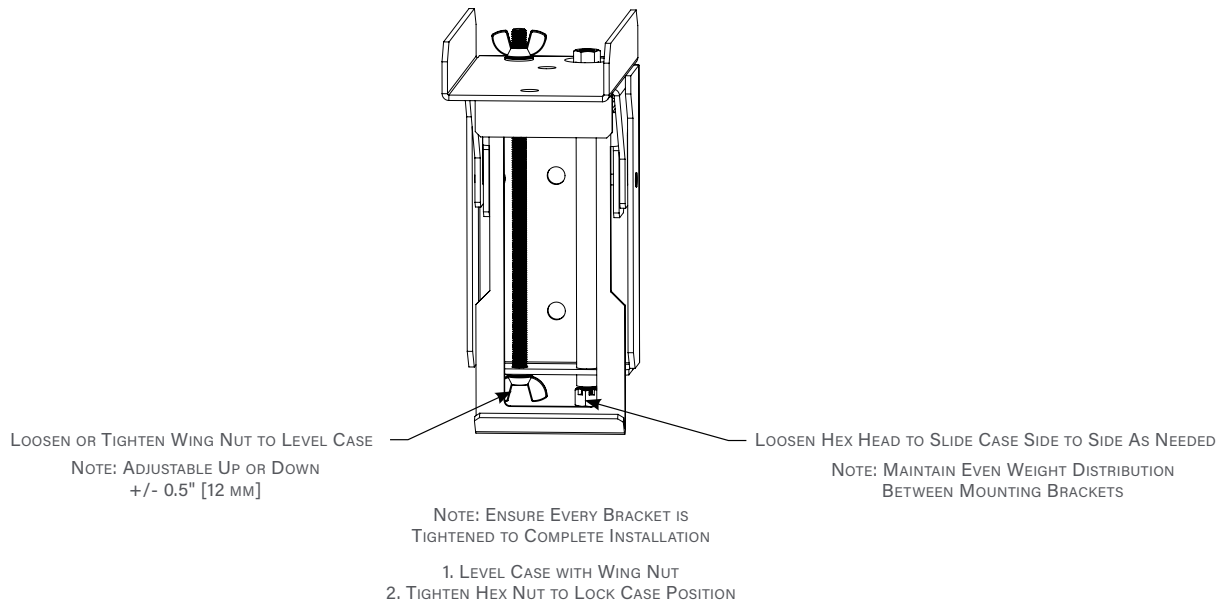

Figure 6
5. Bring the upper face of the top clamp level with the horizontal slots on the side of each bracket and ensure that the hook part of the bracket is in the fully lowered position prior to setting the case on. (Figure 2). See Step 9 (Figure 6) for bracket adjustment details.
9. Adjustment options (Figure 6):